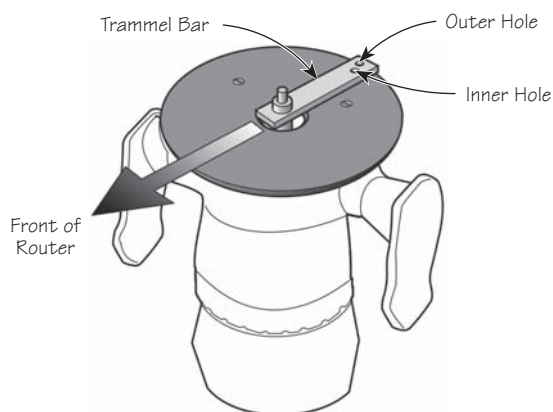

Figure 1: Drilling trammel holes in the base plate.
2. With the base plate attached to your router, turn your router upside down or lightly clamp it in a vise (spindle end up), install the alignment pin, and adjust your router so the 1/2" diameter portion of the alignment pin projects at least 1/4" beyond the router base plate. Place the 1/2" hole in the trammel bar over the projecting alignment pin. Swing the trammel bar so the outermost hole in the free end faces the rear of the router, as shown in Figure 1. Clamp it in this position with a small C-clamp. Using the two 3/16" holes in